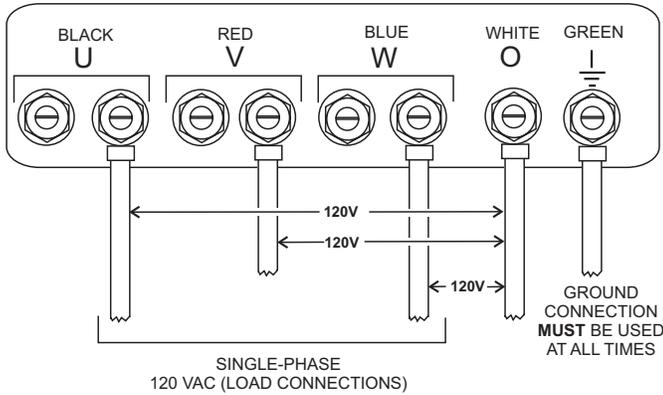

Figure 17. UVWO Terminal Lugs Single-Phase 120-Volt Connections
3. Connect the load wires to the UVWO terminals as shown in Figure 17.